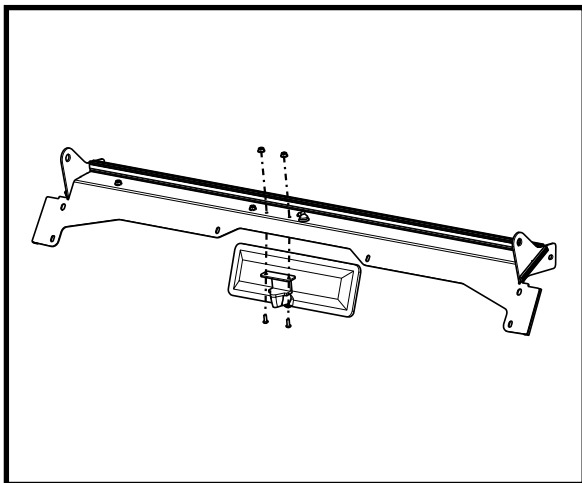

Figure 3.1: Assemble Mirror to Windshield Support
- 3.1 Assemble the rear view mirror to the windshield support (see Figure 3.1).